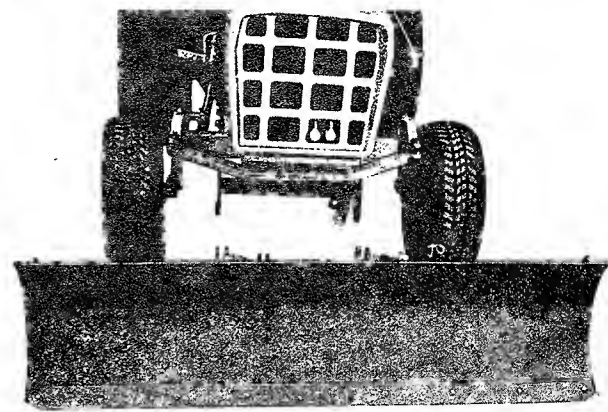

Figure 3. Blade positioned in front of tractor for mounting.
2. See figure 3. Position the snow plow and dozer blade in front of the tractor as shown.